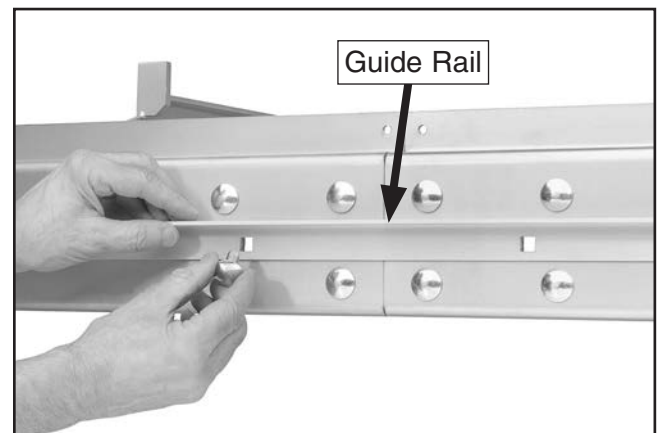

Figure 16. Attaching guide rail.
- Attach guide rail to each side of track with (6) M10-1.25 x 20 carriage bolts, 10mm flat washers, and M10-1.5 lock nuts (see **Figures 16–17**).